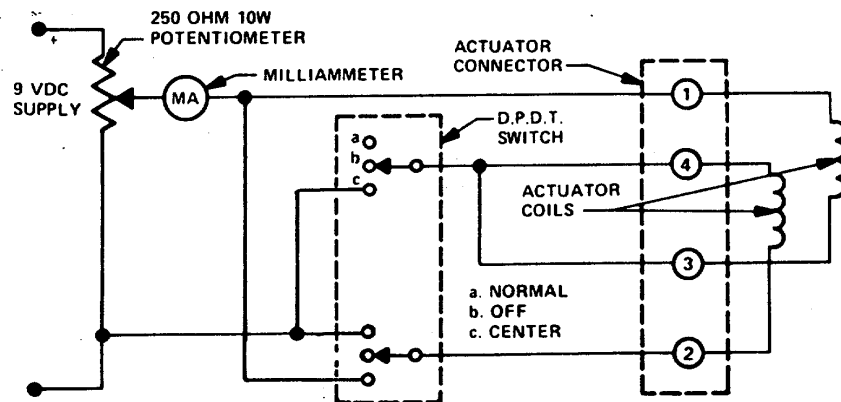

Figure 12-2. Actuator Test Circuit
(1) Adjust speed adjusting screw until governor is approximately 5 percent above steady-state speed.
(2) Disconnect test stand linkage from terminal shaft.
(3) Back out actuator pilot valve plunger screw (63) 1-1/2 to 1-3/4 turns after bottoming very carefully against spring. Use a 7/64 inch (2.8mm) hex wrench.
(4) Set test circuit (figure 12-2) to OFF and connect to transducer plug on actuator case.
(5) Connect a 9 VDC power source to test circuit. Set test circuit to CENTER.
(6) Adjust test circuit potentiometer to 400 ma then set switch to OFF.
(7) Adjust spring seat screw (56) with a 1/8 inch (3.2 mm) hex wrench until terminal shaft rotates approximately to its midpoint of travel. Turn spring seat screw (56) clockwise to move terminal